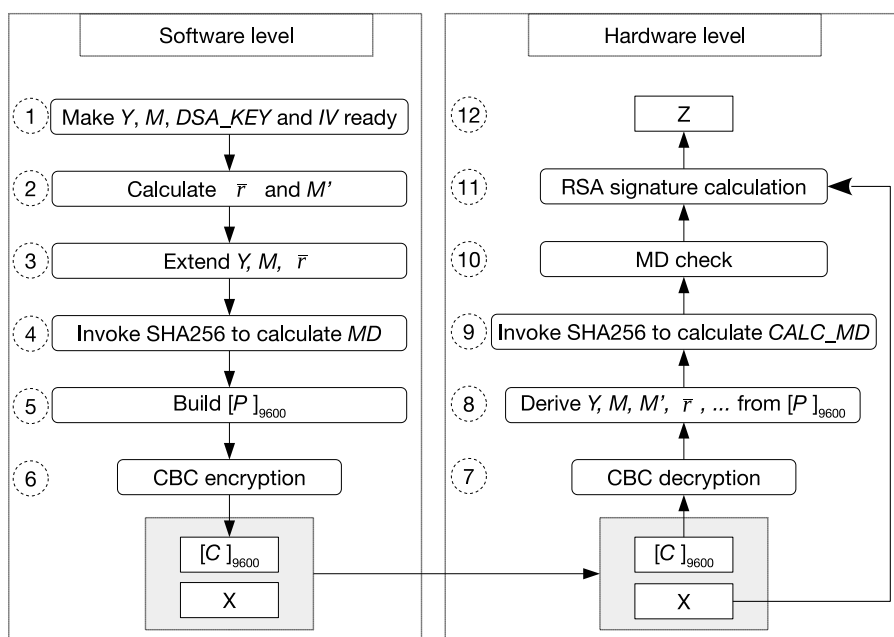

Figure 22-1. Software Preparations and Hardware Working Process
If you want to use the DSA module, the software needs a series of preparations, as shown in Figure 22-1. The left side lists preparations required by the software before the hardware starts the RSA signature calculation, while the right side lists the hardware workflow during the entire calculation procedure.
1. The software preparation (left side in Figure 22-1) is a one-time operation before any signature is calculated, while the hardware calculation (right side in Figure 22-1) repeats for every signature calculation.
Users need to follow the steps shown in the left part of Figure 22-1 to calculate C . Detailed instructions are as follows:
1. Decryption: Step 7 and 8 in Figure 22-1
The decryption process is the inverse of Step 6 in Figure 22-1. The DSA module will call the AES accelerator to decrypt C in CBC block mode and get the resulting plaintext. The decryption process can be represented by $P = \text{AES-CBC-DEC}(C, DSA_KEY, IV)$, where IV (i.e., $[IV]_{128}$) is defined by the user. $[DSA_KEY]_{256}$ is provided by the HMAC module, derived from $HMAC_KEY$ stored in eFuse. $[DSA_KEY]_{256}$, as well as $[HMAC_KEY]_{256}$ are not readable by users.
2. Check: Step 9 and 10 in Figure 22-1
The DSA module will perform two checks: MD check and padding check. The padding check is not shown in Figure 22-1, as it happens at the same time as the MD check.
3. **Calculation: Step 11 and 12 in Figure 22-1**